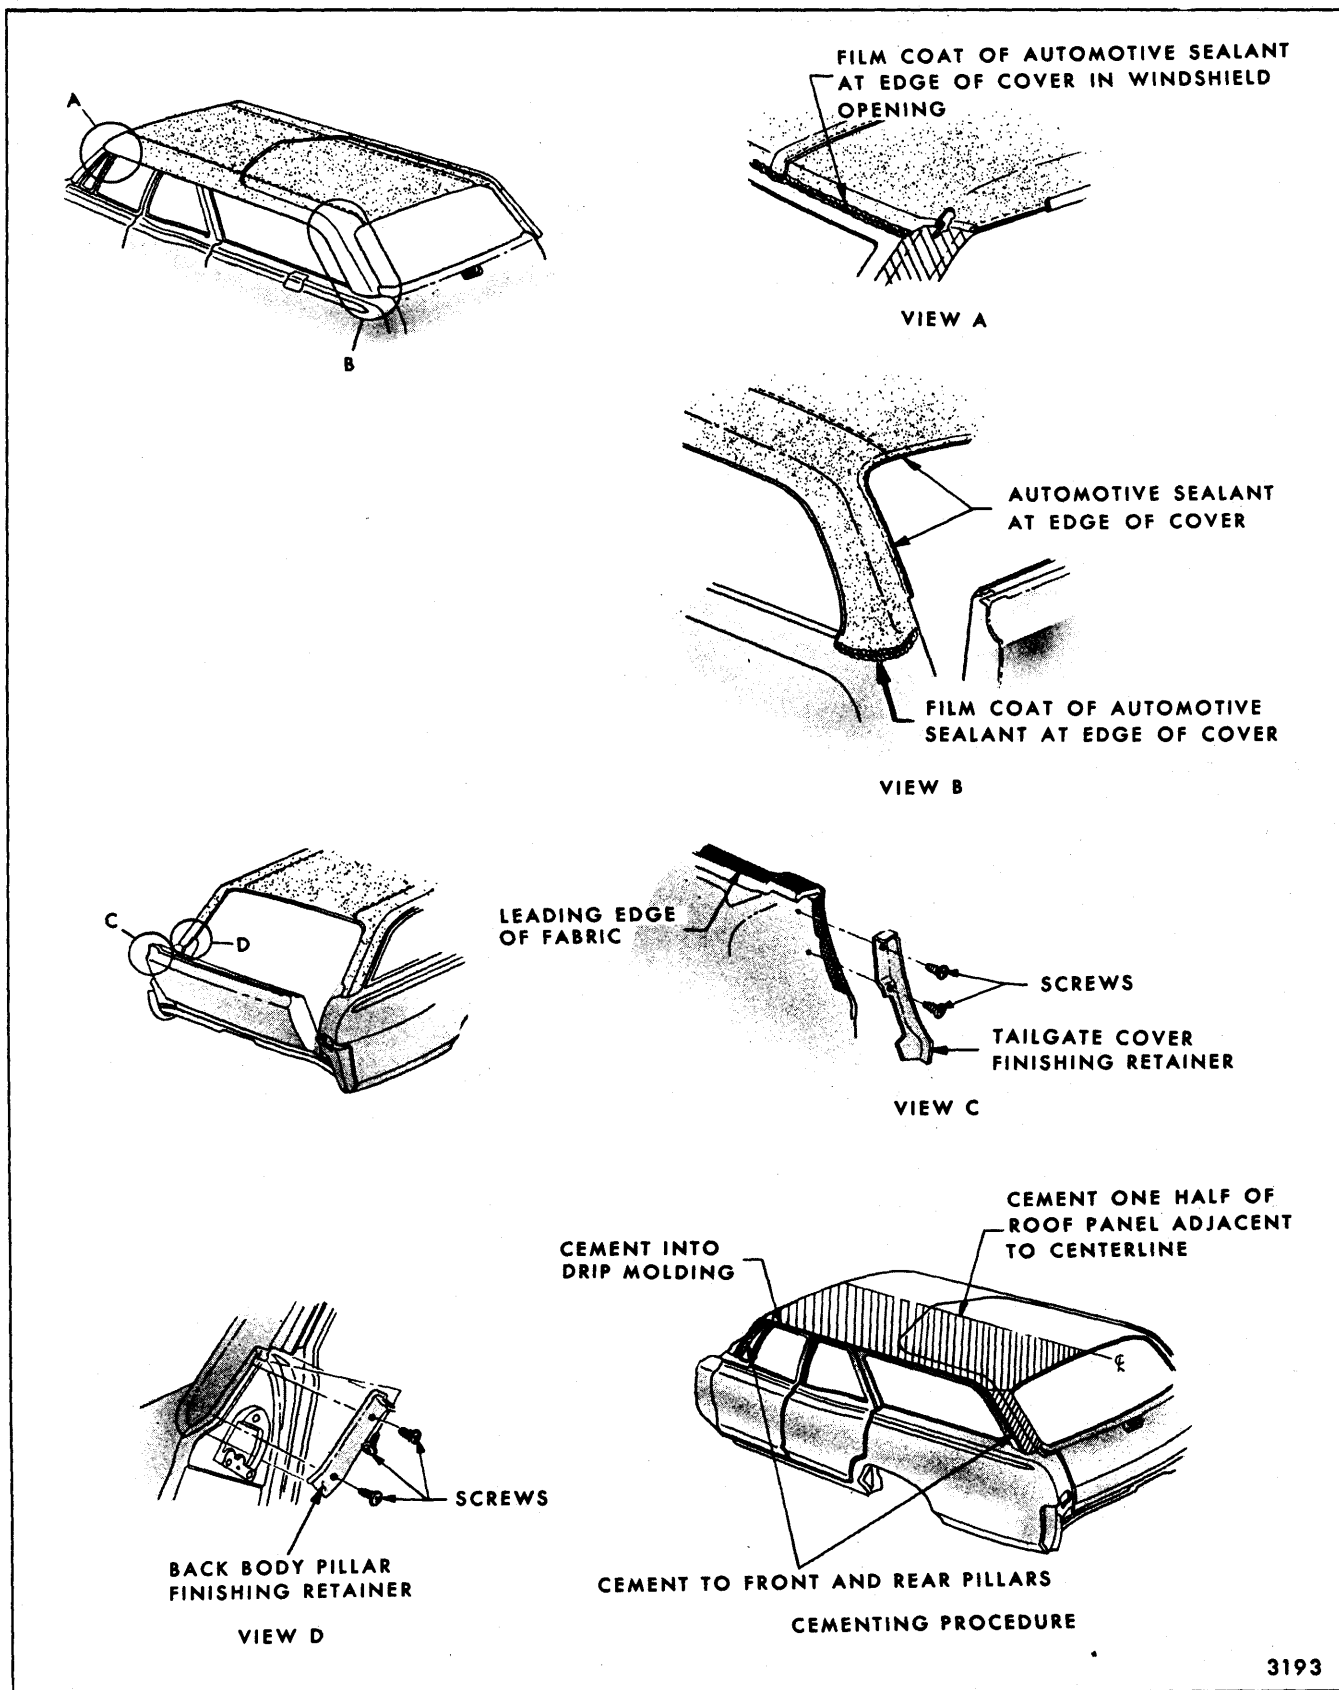

Fig. 12-8—Typical Fabric Roof Cover Installation on Station Wagon Styles
17. Apply a film coat of silicone sealant such as Dow Corning Automotive Sealant, or General Electric RVP, or equivalent, to the edge of cover in windshield and back body opening and at belt area. Make certain edges of material around all reveal molding clips that were not removed are also sealed. (Views A & B, Fig. 12-8).
- f. Trim off excess material on tail gate flange (View "C", Fig. 12-8).